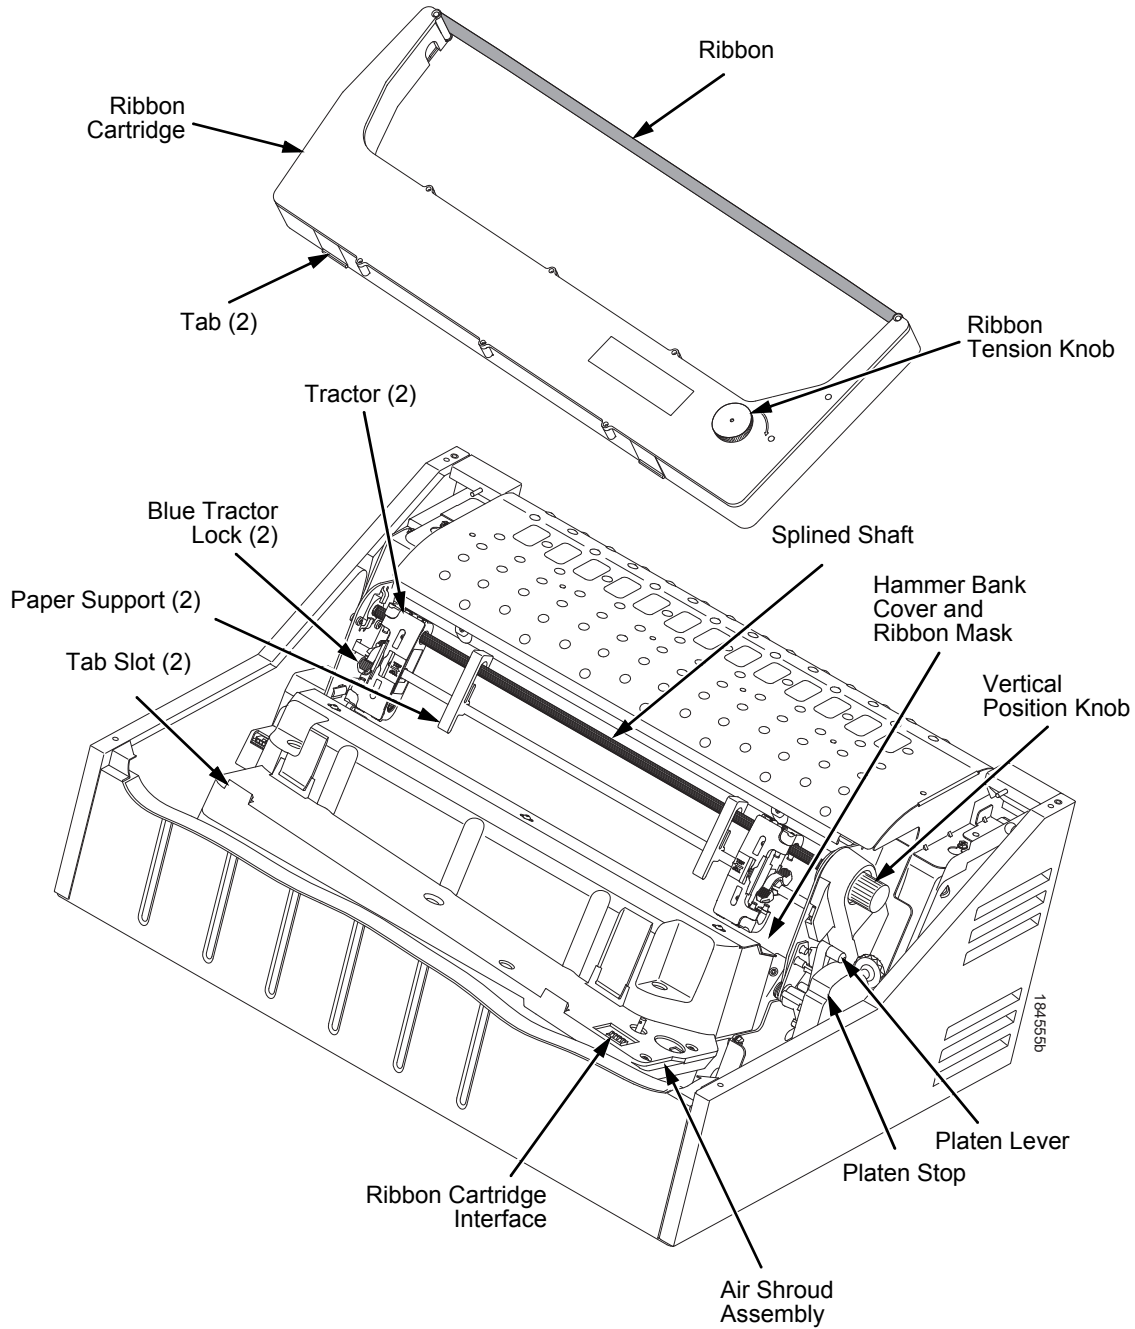

Figure 7. Printer Component Locations
1. Raise the printer cover. Raise the platen lever as far as it will go. (See Figure 7 on page 24 for the location of the lever.)